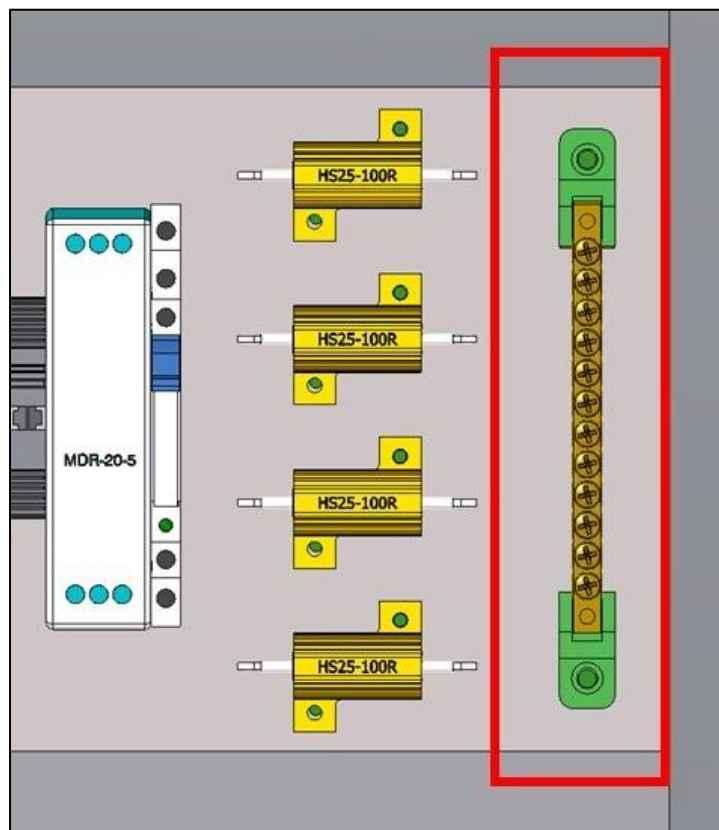

Figure 13 - Ground wire connection.
- C. Connect the green conductor (ground wire) to the grounding bar located at the lower right of the cabinet, as shown in Figure 13.